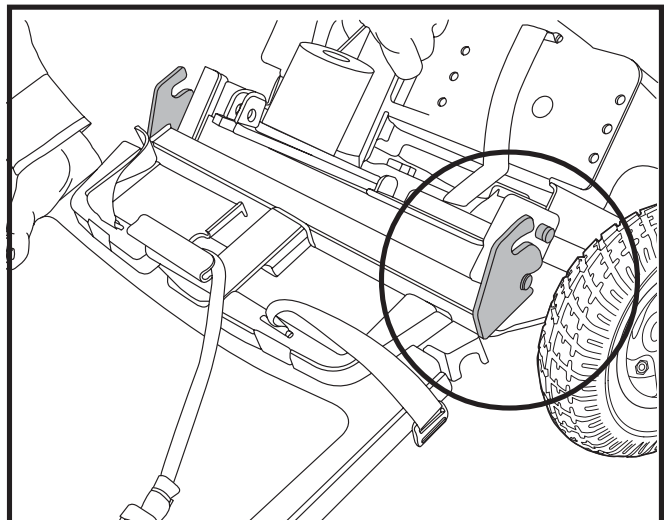

Figure 18. Connecting The Frame Halves
3. Align the lower slots on the rear of the front section with the corresponding pegs on the front of the rear section. See figure 18.